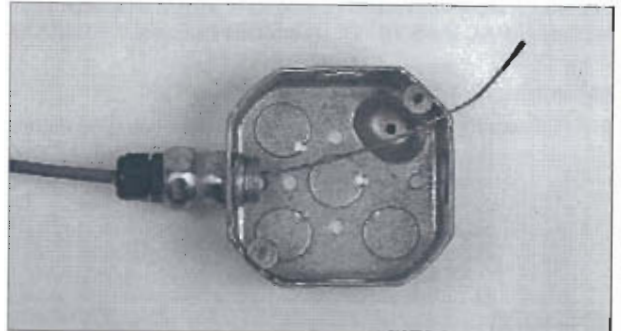

FIGURE 64
1. The flexible conduit and wire rope should be connected to the electrical box as described in "Connecting the Flexible Conduit to the ANSUL AUTOMAN Release, Electrical Box, or Mechanical Gas Valve." See Figure 64.